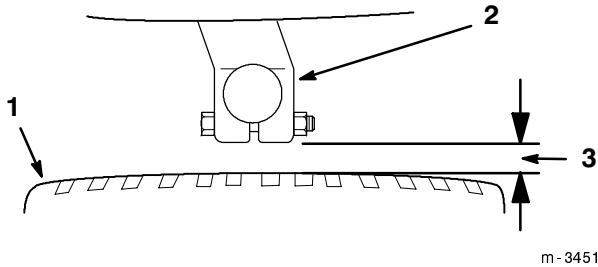

**Figure 4**
- Install a 1.56" O.D. x .06" thick unplated thrust washer onto the splined shaft of the R.H. wheel spindle (Fig. 4).
- Install the splined end of the R.H. spindle through the R.H. end of the front axle and into the steering arm (Fig. 4).
- Secure the spindle shaft to the steering arm with a 5/16"-18 x 2.25" bolt and 5/16" nut (Fig. 4). Torque the nut to 230 ± 25 in-lbs.
- Insert a 1.50" O.D x .05" thick plated wheel washer onto the R.H. spindle (Fig. 4).
- Install a front wheel onto the R.H. spindle with the valve stem facing inward (Fig 4).
- Insert another 1.50" O.D x .05" thick plated wheel washer onto the R.H. spindle (Fig. 4).
- Install a 2.50" O.D x .05" thick hub cap washer onto the spindle. Now insert a .156 x 1.50" long cotter pin into the hole in the spindle (Fig. 4).
- Install a hubcap onto the hubcap washer until it snaps in place (Fig. 4).
14. Insert a spindle cap into the steering arm (Fig. 4).